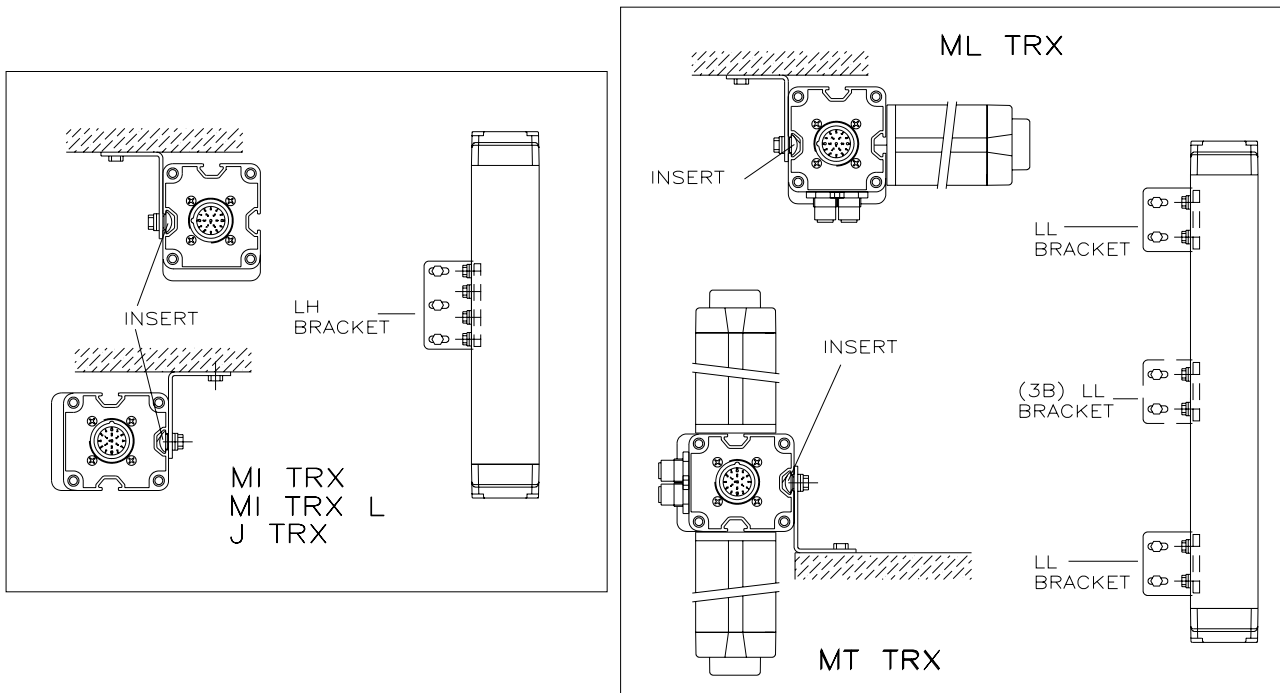

Figure 21
The fastening inserts can be located in the rear or in the side spline of the units, depending on the dimensions and shape of the machine rest (Figure 21).
- **ML/MT MODELS:** these are supplied with two **LL** brackets (three for 3B models) which must be fixed as indicated in Figure 21.